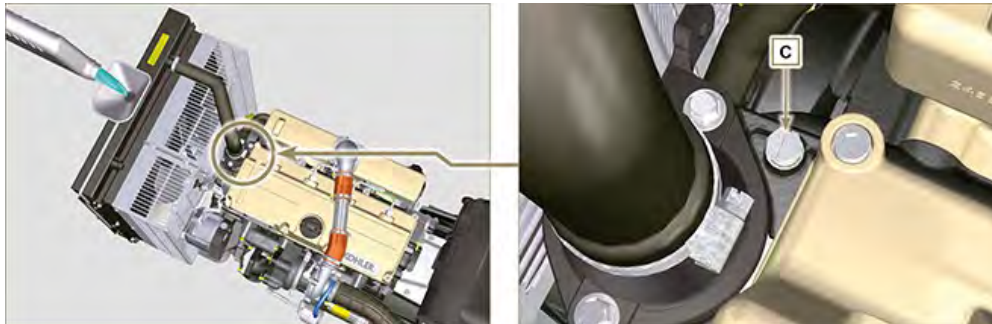

Fig. 4.5
4. Loosen the screw **C** , release any air and tighten the screw C (Tightening torque of **8 Nm** - Fig. 4.5).